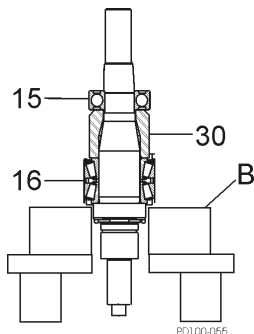

Figure 76 - Remove Bearings From Shaft
- Use a hydraulic press and V-blocks (Figure 76, item B) to remove the bearings (items 15 and 16) and spacer (item 30)